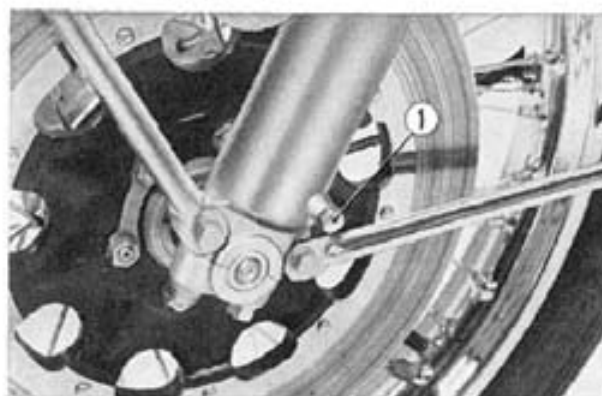

Fig. 19-16 ① Front fork drain plug
- (2) Change the oil in the front fork.
- a. Unscrew the front fork drain plug at the bottom of the fork cylinder, drain the oil by pumping the forks while plug is out. Replace the plug securely after draining. (Fig. 19-16)